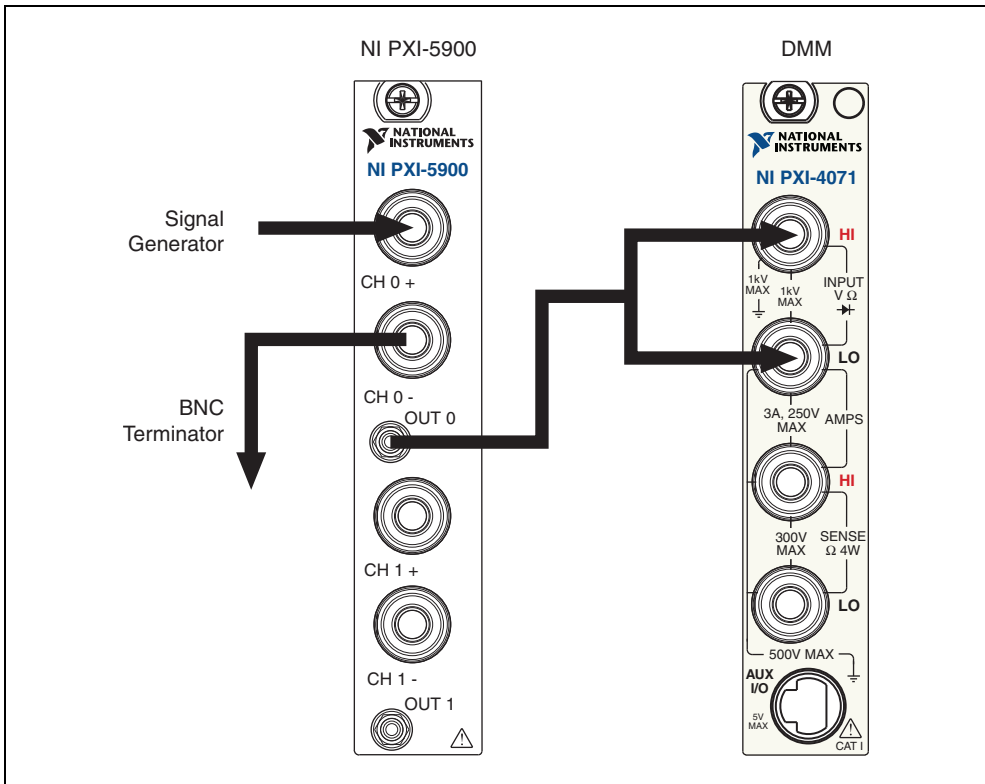

Figure 1. Vertical Offset and Vertical Gain Verification Connections
5. Connect the DMM to the NI 5900 output terminal as shown in Table 3 for the appropriate step. Refer to Figure 1 for connection information.